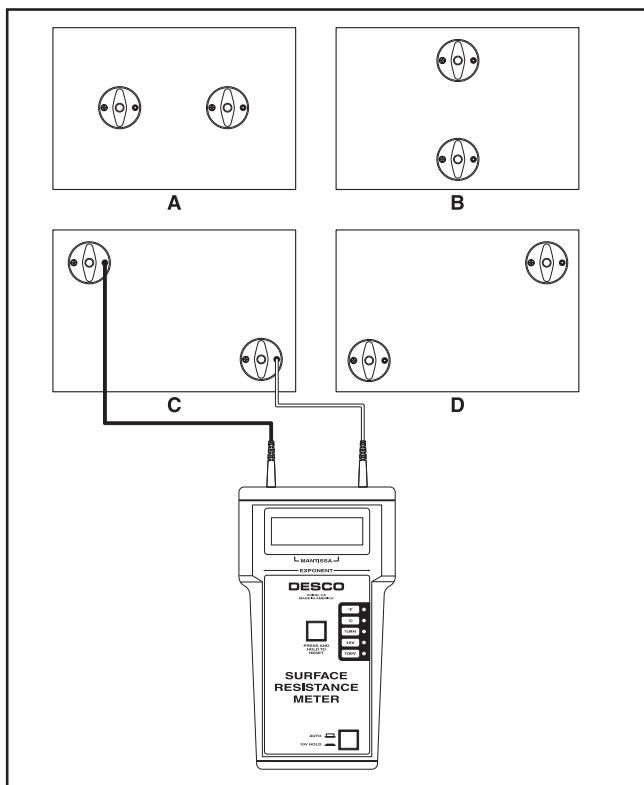

Figure 13. Electrode positions on surface of pad, RTT test.
A second type of test is RTT (Resistance, Point to Point). Here you measure the resistance from one 5 lb. electrode to another 5 lb. electrode; see electrode test positions A, B, C, and D in RTT test diagram, Figure 13. This is the test that is more typically used in the laboratory to determine Micastat® compliance with electrical specifications. Both test procedures are outlined in this Technical Bulletin using the Desco Surface Resistance Test Kit Item No. 19780.
5. Place the electrodes in position A as shown in RTT test diagram (Fig. 13). Set the meter selector switch to 100V.